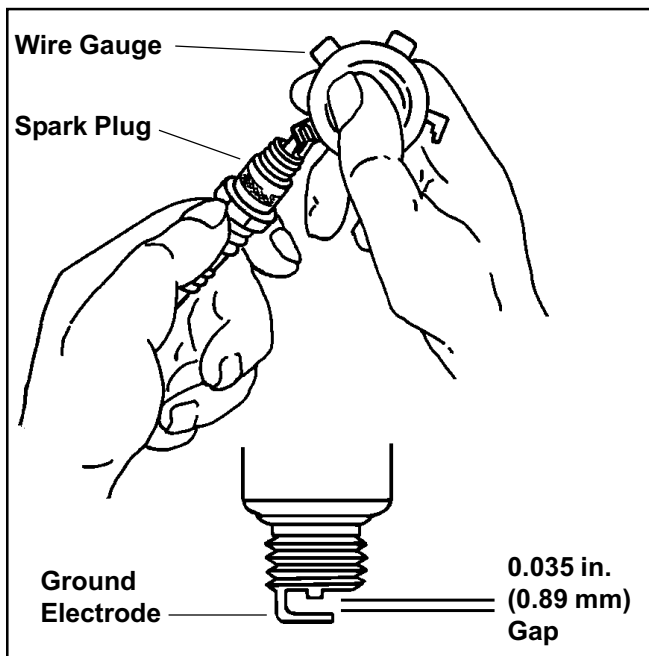

Figure 7. Servicing Spark Plug.
3. Check the gap using a wire feeler gauge. Adjust the gap to **0.035 in. (0.89 mm)** by carefully bending the ground electrode. See Figure 7.